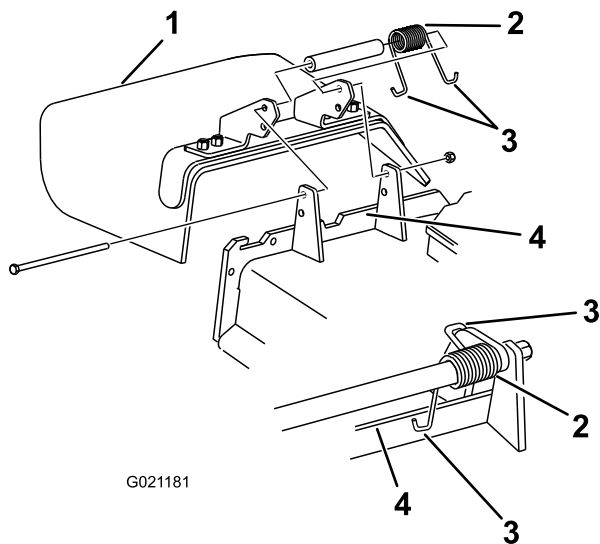

Figure 8
1. Ensure that 1 end of the spring is installed behind the deck edge before installing the bolt as shown in Figure 8.
2. Place the other end of the spring around the grass deflector (Figure 8).